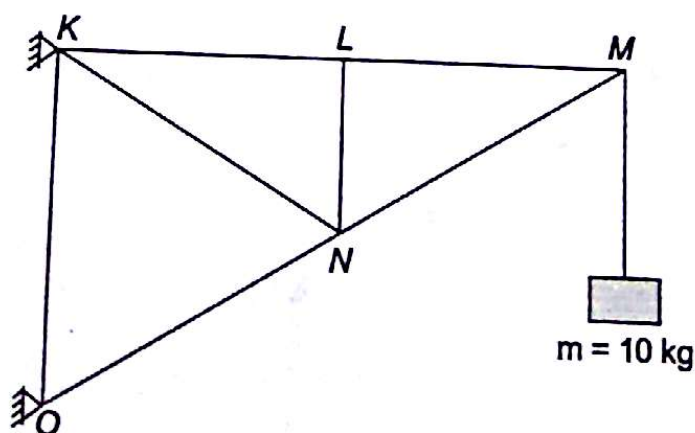

Fig. 4.55
- 4.26 The Fig. 4.55 shows a pin jointed truss loaded at the point M by hanging a mass of 100 kg. The member LN of the truss is subjected to a load of